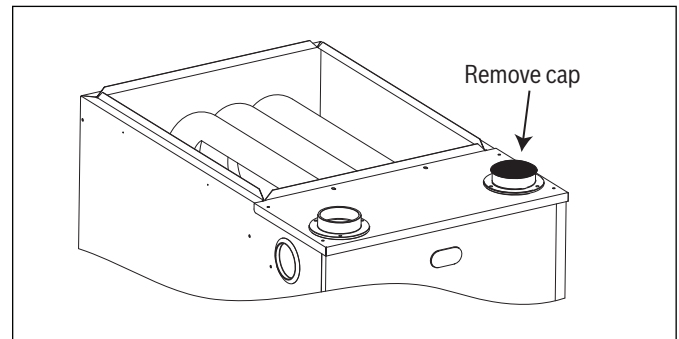

Figure 21 Protective Cap Removal
- ▶ Prior to installing the exhaust vent pipe, ensure that the black plastic cap is removed from the coupler on furnace cabinet. The cap is only used to prevent debris from falling into the vent opening and into the inducer during installation. Refer to Figure 21.